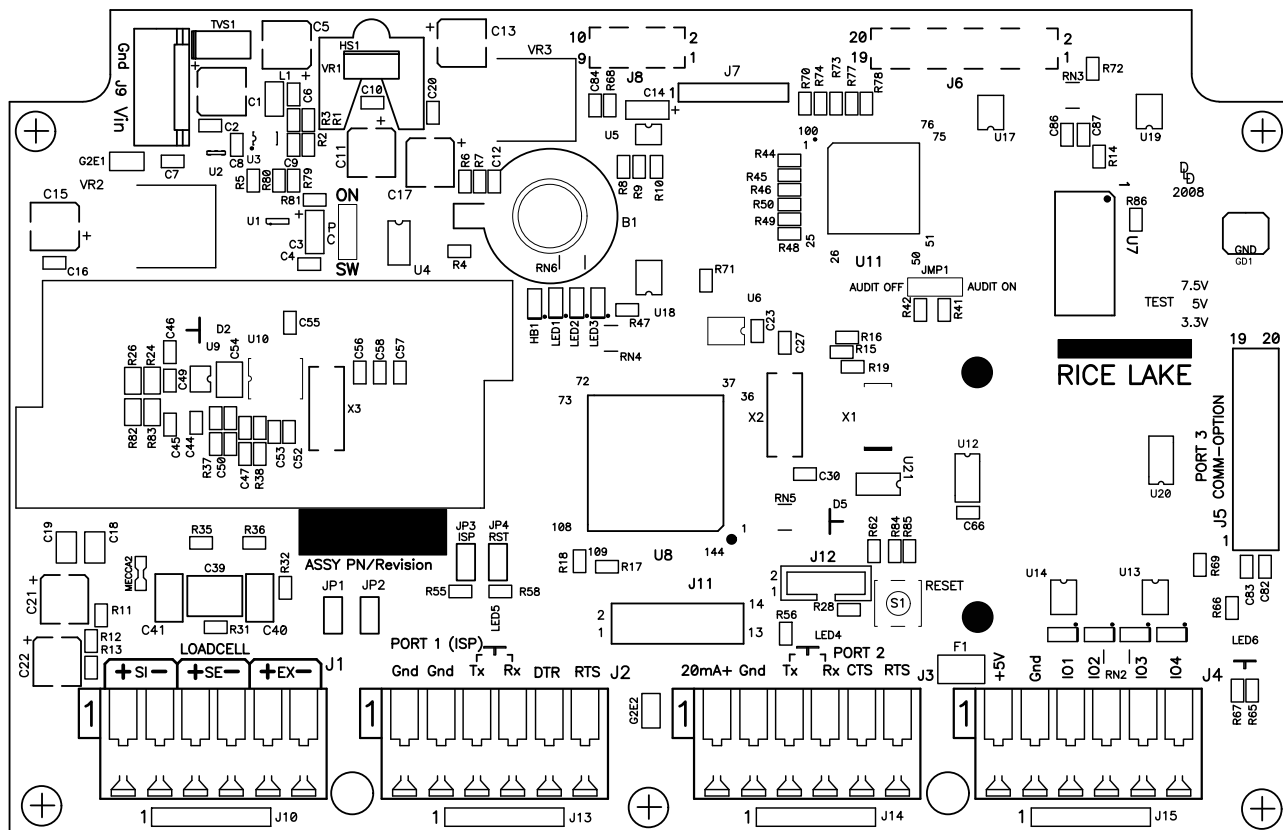

Figure 2-5. CW-90/90X CPU board
3. Install the plastic standoffs in the standoff holes (shown as black-shaded circles in Figure 2-5).